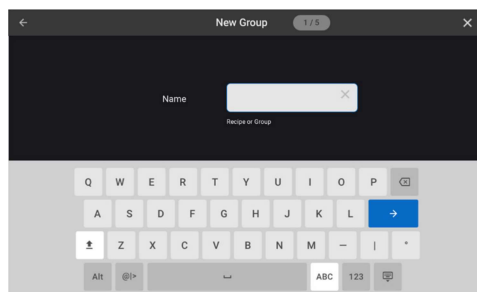

Figure 19: Name New Group
3. Input the group name and touch the blue arrow button to continue (Figure 19, below).